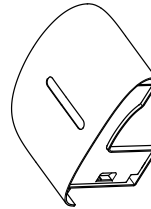

Fig. 3
3. Tilt the tank over the sink and pour out the water (fig. 3). Make sure the cover does not fall off.